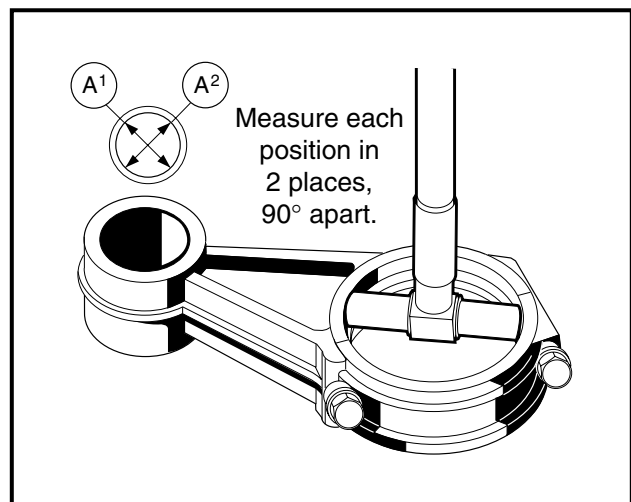

Figure 13-57 Measure Connecting Rod Large Bore I.D.
5. Using a telescoping gauge or an inside micrometer, measure the inside diameter of the large bore at several points along its length (**Figure 13-57, Page 13-29**).